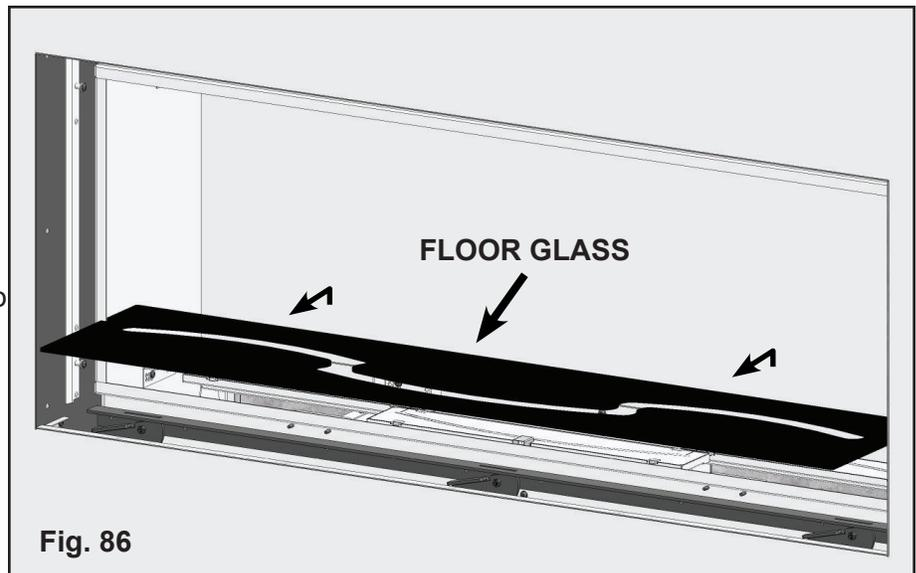

Fig. 86
5. Remove the floor glass and set it aside. (**Fig. 86**)